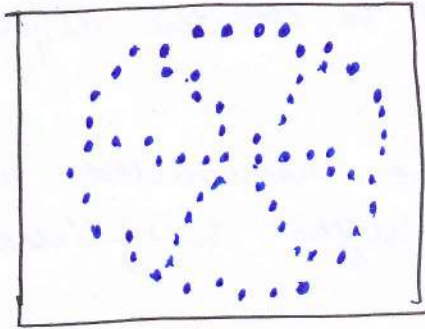

Fig. 4
The wheel picture in fig 4 illustrates two of the problems in drawing curved & straight lines on a graphic image.
e.g. If we were to enlarge the wheel of Fig. 4, it would no longer fit in the frame buffer